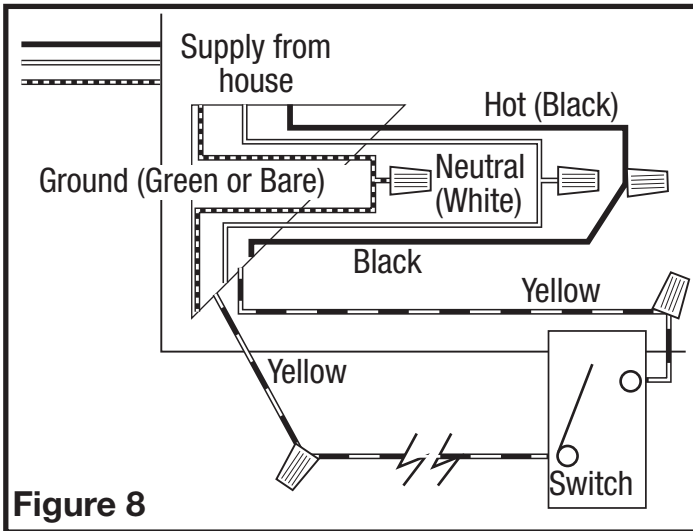

**Figure 7**
- 1b. Internal Wire Compartment: Using a 7/16" socket, remove the two hex nuts holding the blower assembly in place. Lift up on the assembly and slide it out of the tabs on the housing (Figure 6). Remove the wire compartment cover screw (or screws) and place the cover in a secure place (Figure 7).